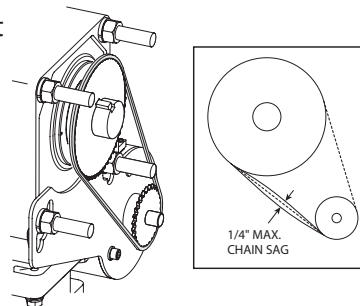

Fig 9–B
- Check chain tension, max sag is 1/2", **Fig. 9–B**.